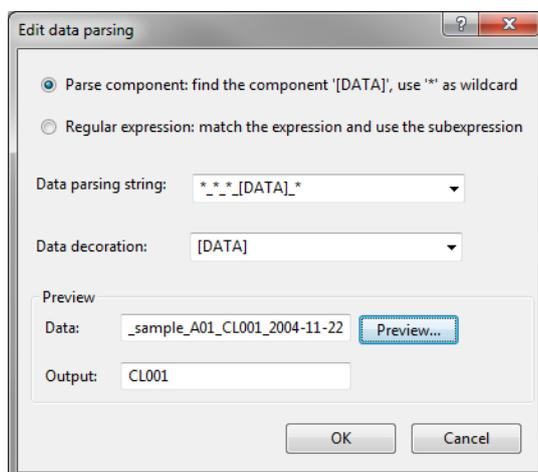

Figure 3: Data parsing string.
10. Press the <Preview> button and press <OK> when the parsing is correct (see Figure 3).